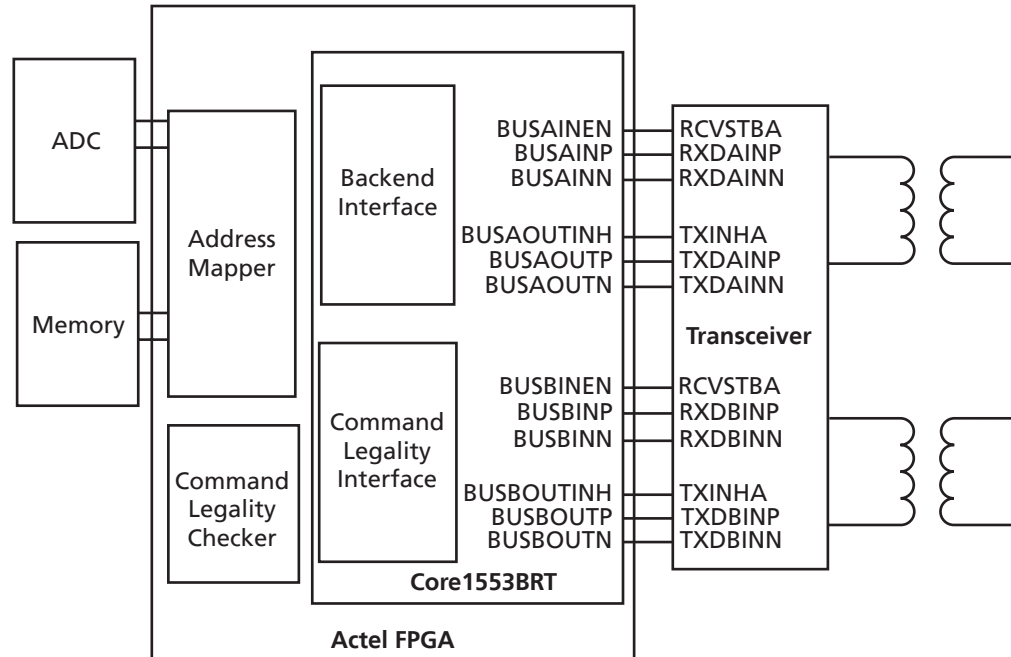
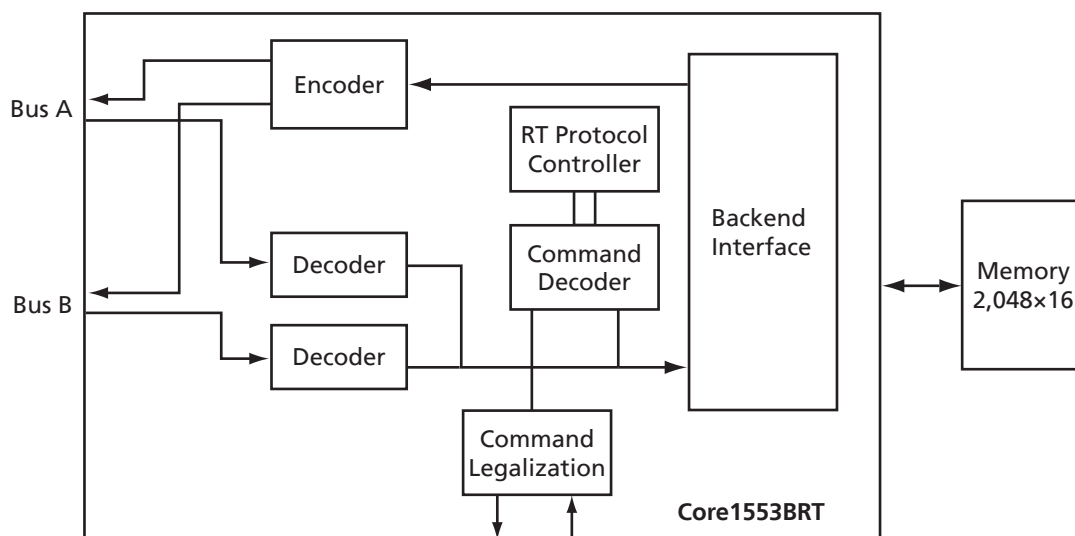

Figure 1 · Typical Core1553BRT System
Figure 2 · Core1553BRT RT Block Diagram
Core1553BRT provides a complete, dual-redundant MIL-STD-1553B remote terminal (RT), apart from the transceivers required to interface to the bus. A typical system implementation using Core1553BRT is shown in Figure 1 and Figure 2 on page 6.
The core consists of six main blocks: 1553B encoders, 1553B decoders, the backend interface, a command decoder, RT controller blocks, and a command legalization block (Figure 2 on page 6).